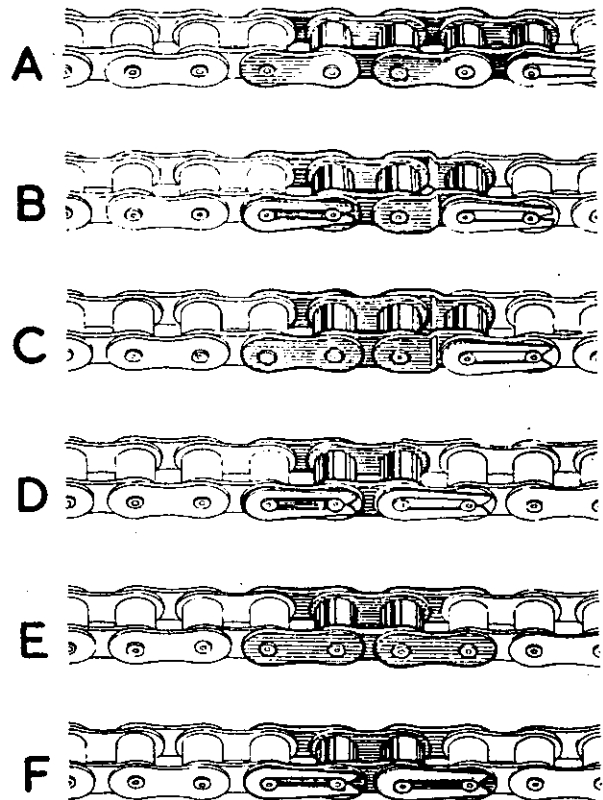

FIG. H.4.
To **SHORTEN** a chain containing an **EVEN** number of pitches: remove the parts shown (A) Fig. H.4, replace by cranked double link and single connecting link, parts shown (B) Fig. H.4.
To **SHORTEN** a chain containing an **ODD** number of pitches: remove the parts shown (C) Fig. H.4, replace by single connecting link and inner link, parts shown (D) Fig. H.4.
To **REPAIR** a chain with a broken roller or inner link, remove the parts shown (E) Fig. H.4, replace by two single connecting links and one inner link, parts shown (F) Fig. H.4.